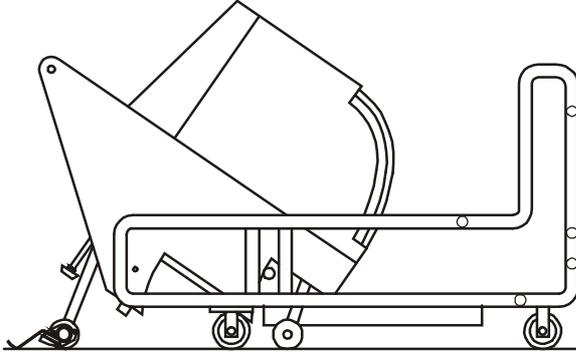

Fig. 20: Moving into maintenance position
In preparation for maintenance, the machine is removed from the transport trolley with the shaft in front, after the fixing axle (46) has been withdrawn, and driven into the shaft (see Fig. 20: ).